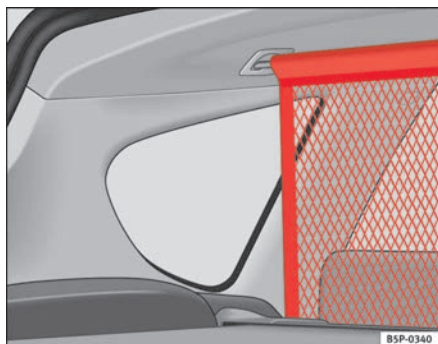

Fig. 126 Divider net
- Pass the retaining net up between the backrest and the roll-up cover, and place it in the ceiling allotments - first into the right one and then into the left one ⇒ fig. 126.